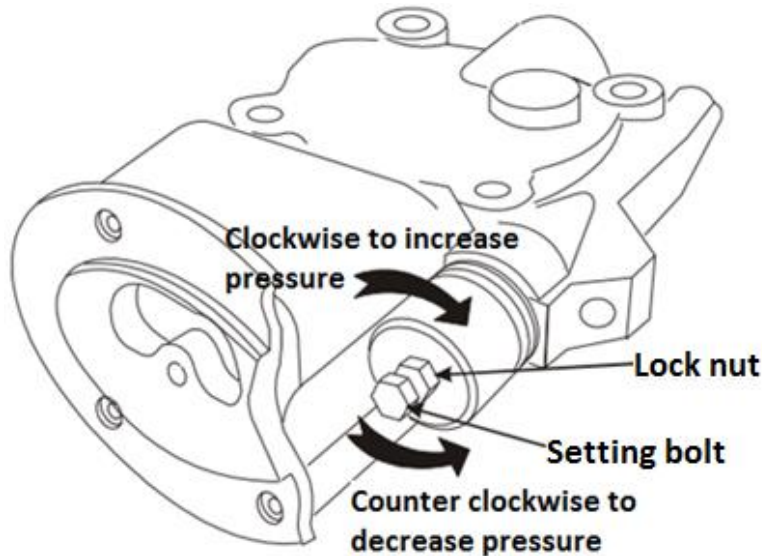

Figure 3
4. Loosen the setting bolt lock nut on the regulator. (Figure 3)